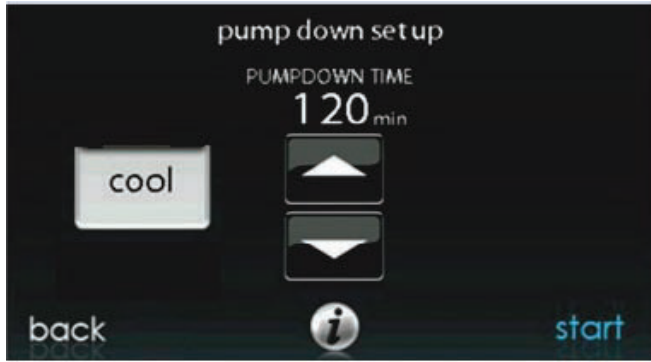

Fig. 26 – Pump Down Setup Screen
3. Pump down in COOL mode allows refrigerant to be isolated in outdoor unit. Set desired time period. Default time period for the procedure is 20 minutes. See Fig. 26.